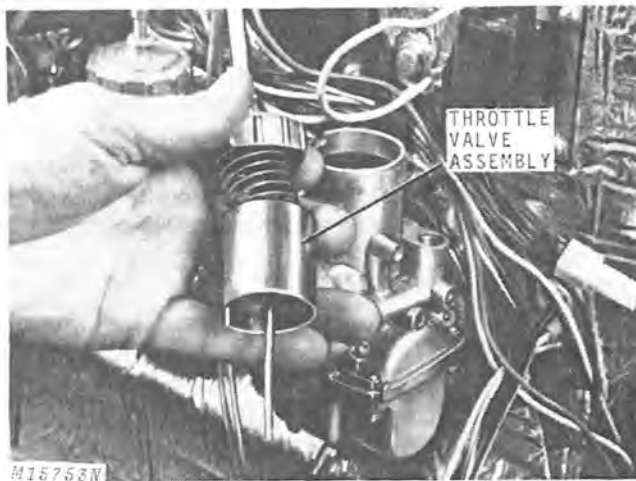

Fig. 7-Removing Throttle Valve Assembly
4. Remove mixing chamber cap, throttle valve spring, plate, E-ring, jet needle and throttle valve, Fig. 7. These components come out as an assembly.